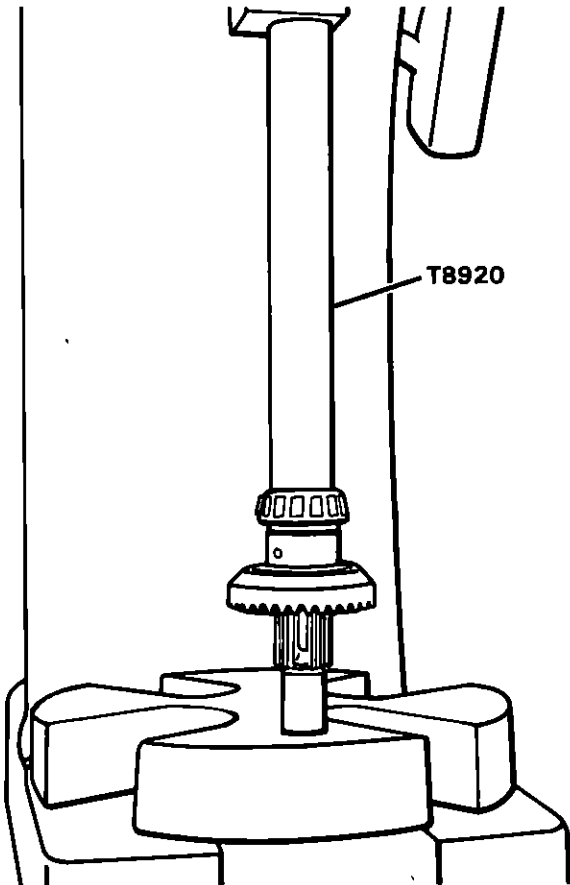

Figure 63 Installing Propeller Shaft Components.
C. Place prop shaft with components on arbor press. Slip bearing installer (Special Tool No T 8920) over end of prop shaft and press components on prop shaft until bearing bottoms out. Figure 63.